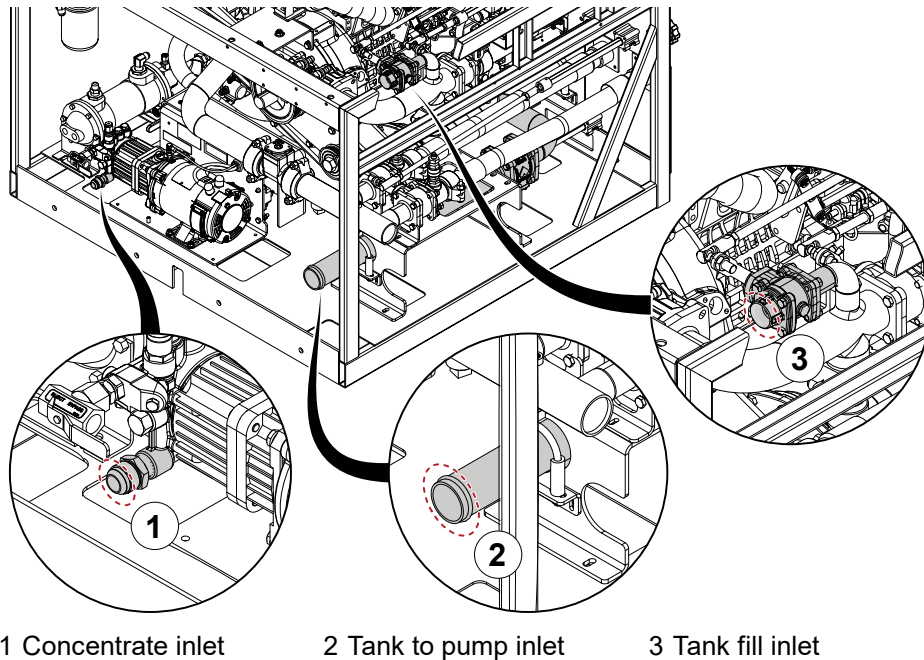

Figure 15
- 1 Route a hose from the concentrate supply tank to the concentrate inlet on the foam pump (Figure 15).
- 1 Connect a hose to the tank to pump inlet (Figure 15).
- 1 Locate the water supply inlet (Figure 15).